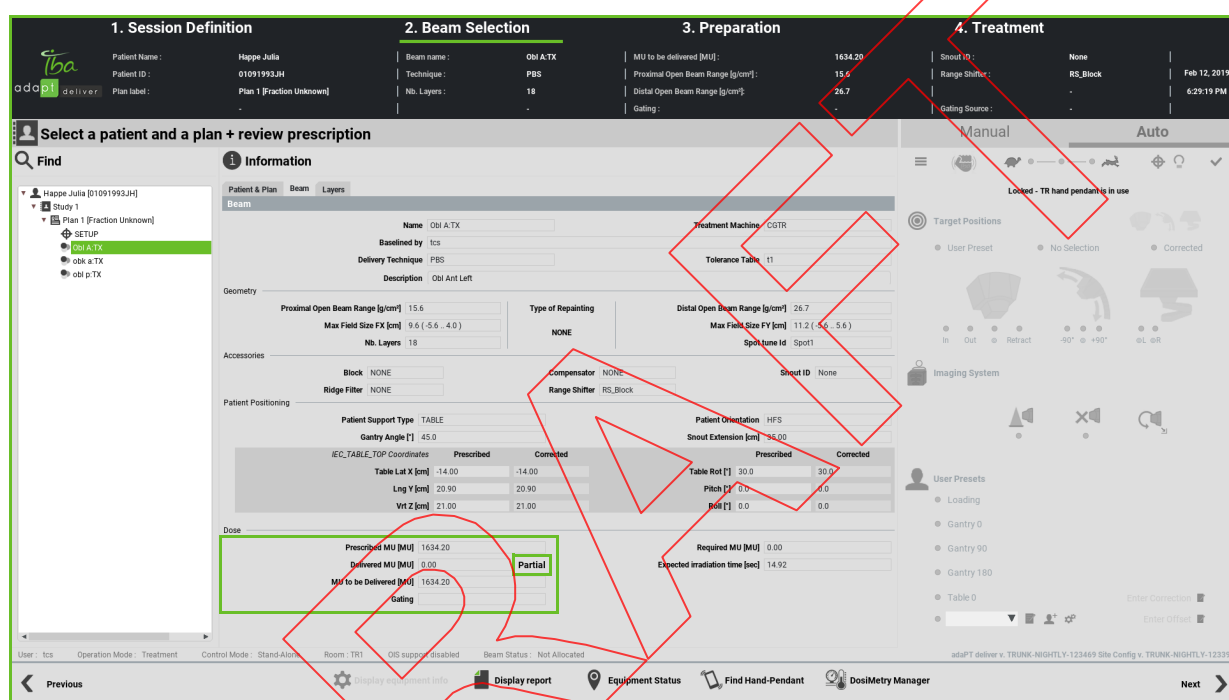

Figure 39-21. Resuming irradiation after partial treatment in Standalone mode
3. Search the adaPT~~deliver~~ database manually for data about partial treatments. To do so, in the **Dose panel**, click on **Partial** (Figure 39-21)